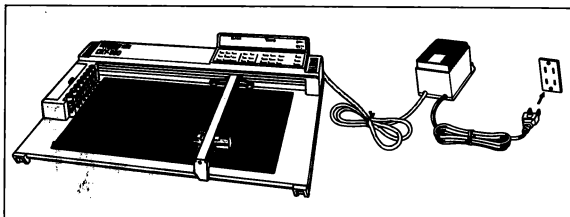

Fig. 2-14
- 5) Remove riding or sagging of the paper with cloth if any, as shown in Fig. 2-14. The paper setting is now completed.